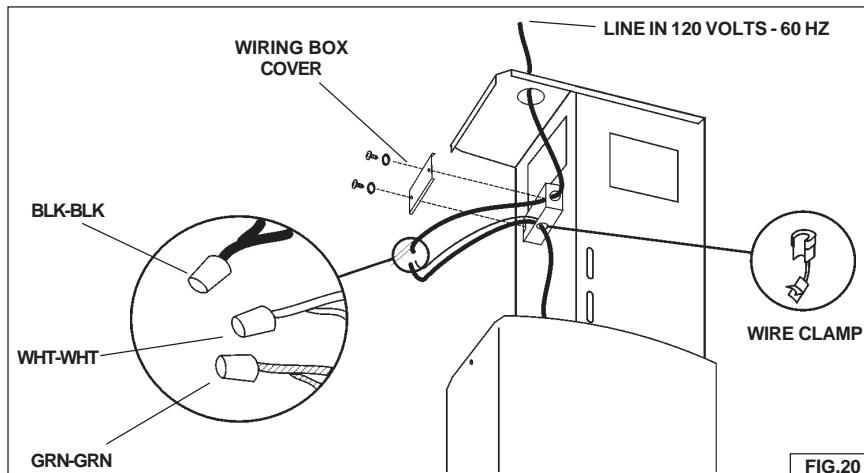

FIG.20
1. Remove the wiring box cover. Fig. 20.